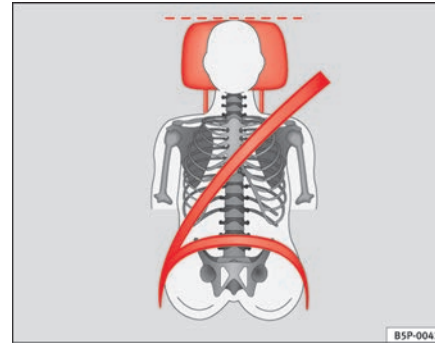

Fig. 13 Correct belt web and head restraint positions, viewed from front
- The shoulder part of the seat belt must lie on the centre of the shoulder, never across the neck. The seat belt must lie flat and snugly on the torso ⇒ page 24, fig. 13.